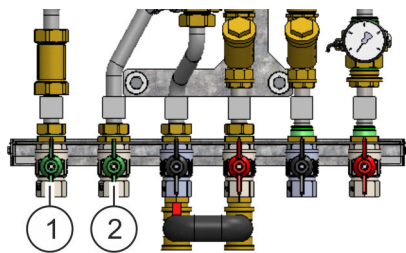

Fig. 25: Connection couplings for the water lines
1. → Connect the fresh water main supply line to the cold water main supply line connection (Fig. 25/1) and tighten it by hand.
2. → Connect the hot water line to the hot water distribution connection (Fig. 25/2) and tighten it by hand.